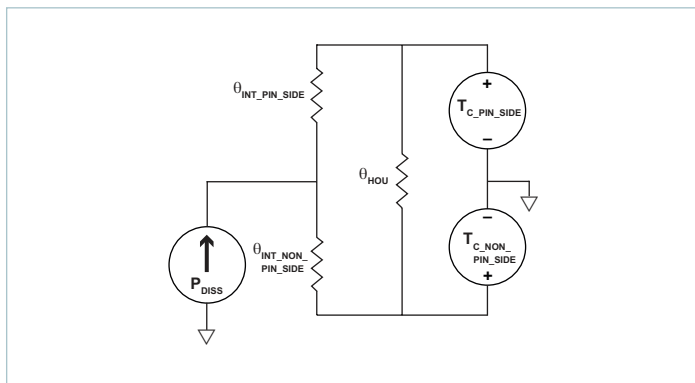
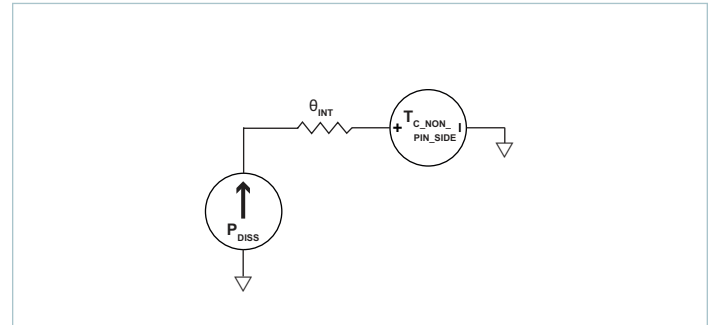

Figure 23 — Double-sided cooling thermal model
Figure 24 — Single-sided cooling thermal model
The VIA package provides effective conduction cooling from either of the two module surfaces. Heat may be removed from the pin-side surface, the non-pin-side surface or both. The extent to which these two surfaces are cooled is a key component for determining the maximum power that can be processed by a PFM, as can be seen from specified thermal operating area on Page 5. Since the PFM has a maximum internal temperature rating, it is necessary to estimate this internal temperature based on a system-level thermal solution. To this purpose, it is helpful to simplify the thermal solution into a roughly equivalent circuit where power dissipation is modeled as a current source, isothermal surface temperatures are represented as voltage sources and the thermal resistances are represented as resistors. Figure 23 shows the “thermal circuit” for the PFM in a VIA package.
- Single-side cooling: the model of Figure 23 can be simplified by calculating the parallel resistor network and using one simple thermal resistance number and the internal power dissipation curves; an example for non-pin-side cooling only is shown in Figure 24.